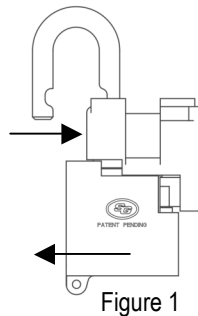

Figure 1
3. Slide the upper case and lower case sections apart, as illustrated at the left in Figure 1. Set the upper case aside.
6. Slide the upper case assembly back on to the lower case (see Figure 1).